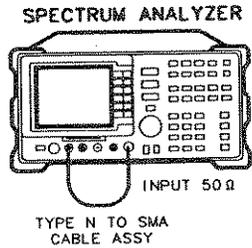

Figure 4-7. Frequency Span Accuracy Test Setup (Spans ≥ 500 MHz)
1. Connect the equipment as shown in Figure 4-7. *Option 026*: Use the cal comb with the 3.5 mm adapter.